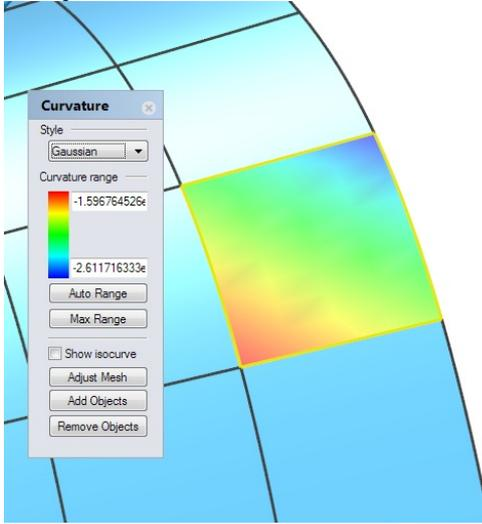

Fig.1 - double curved NURBS patch selected for fitting
- Select input data which should be used for fitting (fig.1).